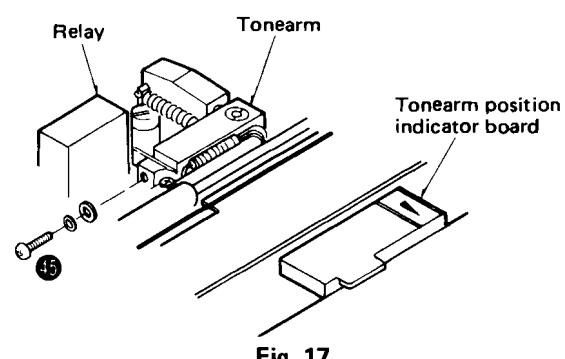

Fig. 17
3. Remove the tonearm setscrew (Fig. 17: 45).